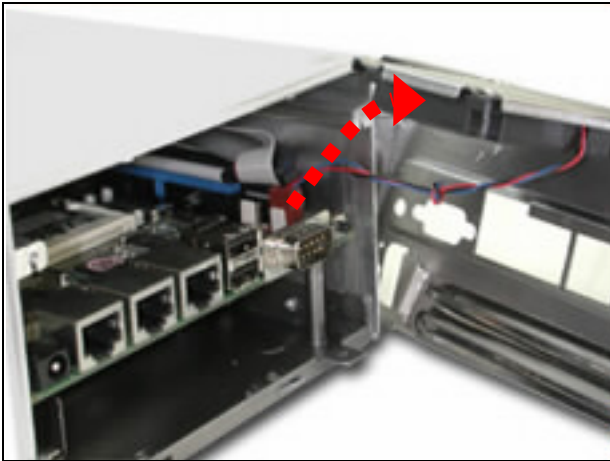

Fig. 2-8 Take off the steel back panel
5. Take off the steel back panel and remove the indicated connector (*Fig. 2-8*).